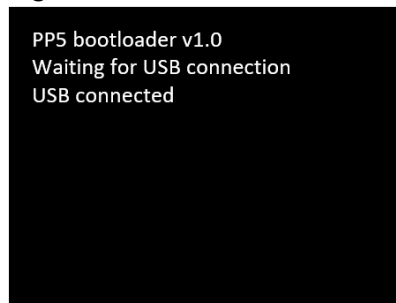

Figure 19.
2. Press and hold all three buttons, then reconnect the device to the power source. This allows the **PowerPACK Pro-5** to enter boot mode, as shown in figure19.